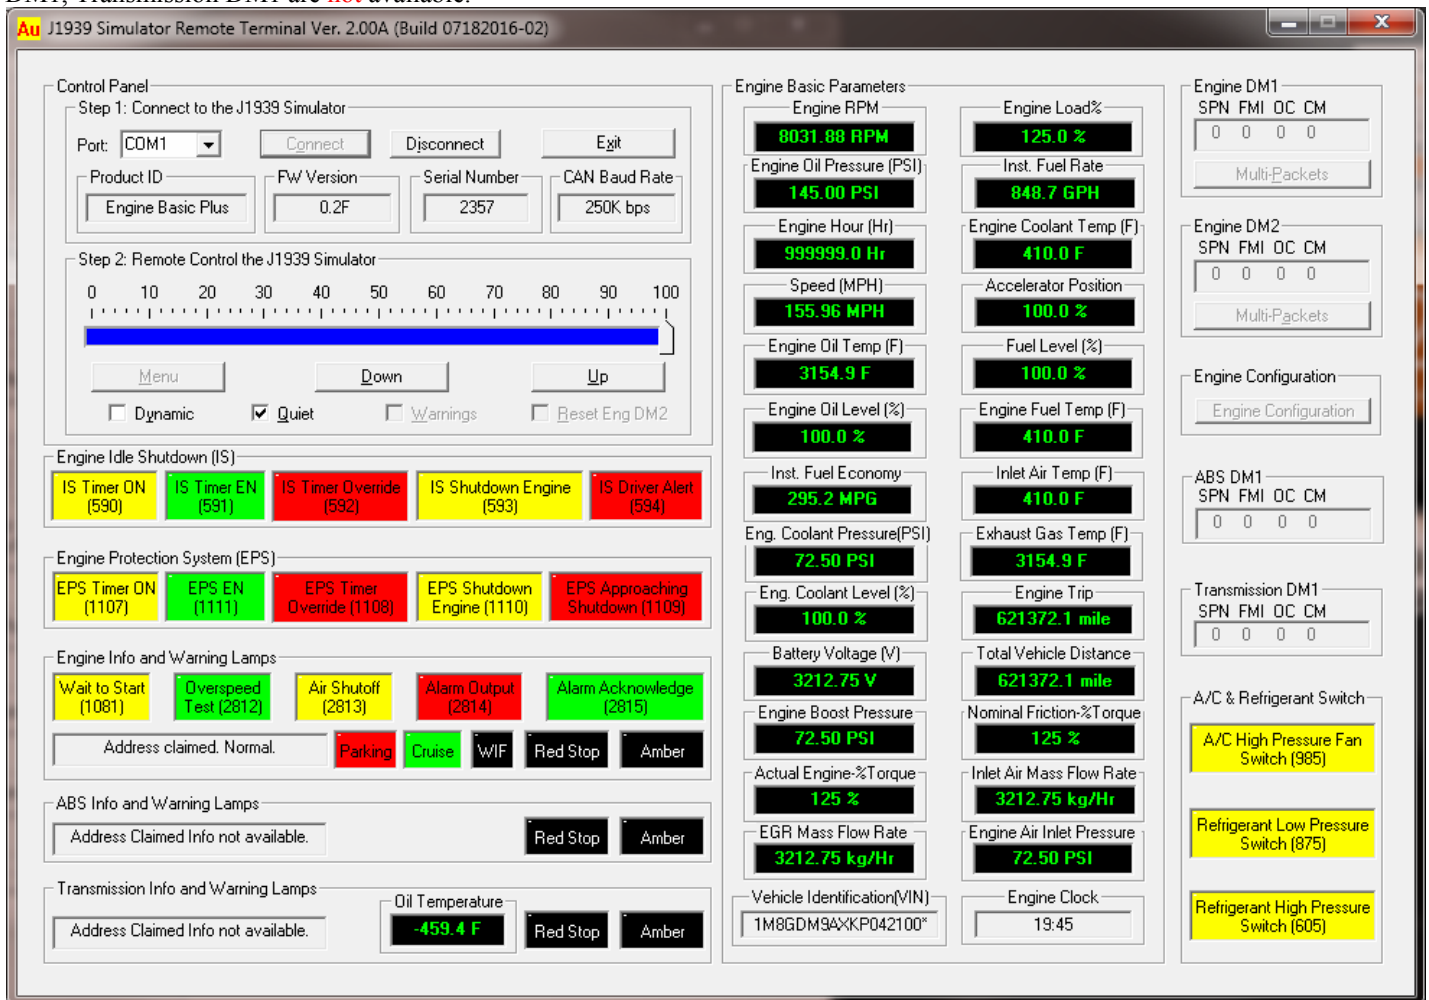

Figure 4-5 Au J1939 Simulator Remote Terminal GUI – Engine Basic Plus
Figure 4-5 shows the J1939 Simulator Remote Terminal for *Engine Basic Plus* edition. Engine Idle Shutdown (IS), Engine Protection System (EPS), A/C & Refrigerant Switch, Engine Info, Cruise lamps, and Engine Basic Parameters are active. ABS info and Warning Lamps, Transmission Info and Warning Lamps, Engine DM1, Engine DM2, Engine Configuration, ABS DM1, Transmission DM1 are **not** available.